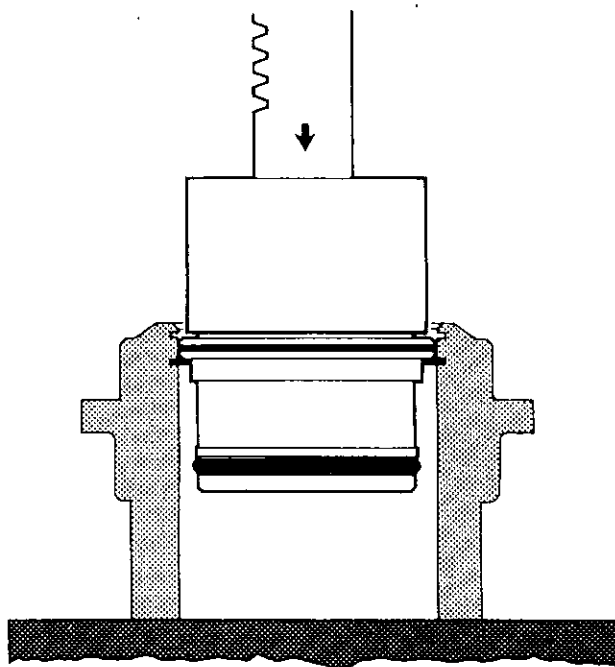

Figure 4.20
8. Press the bearing retainer into position in the drive housing (24), as shown in Figure 4.20.